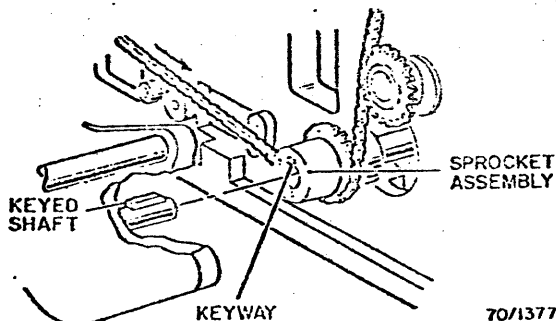

Fig. 3-14. Cycle Control Assembly Adjustment
1. Refer to Fig. 3-14. Fold a 2-inch-wide strip of paper about 2 inches from one end. Lay the paper on the register stop module so the folded end covers the inboard end of the keyed shaft.